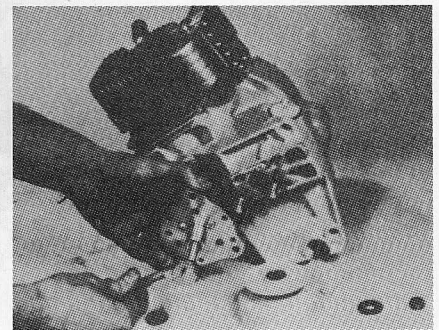

Fig. PR3-16—View showing method of using puller to remove clutch driver.
DIRECT DRIVE CLUTCH. Clutch drum (5—Fig. PR3-15), bearing (4) and shoes (9) can be removed after removing the cover, chain and nut (1). The chamfered end (C) of clutch shoes (9) should be on trailing end as shown. Bearing (4) should be lubricated with a small amount of Mobil Sovarex No. 1W or Shell Alvania No. 2 lubricant before installing clutch drum. Connection at ends of garter spring (8) should be at the middle of a clutch shoe. Do not have connection between clutch shoes. A puller can be used to remove the clutch driver from crankshaft as shown in Fig. PR3-16. Chamfered side of washer (12—Fig. PR3-15) should be toward engine.